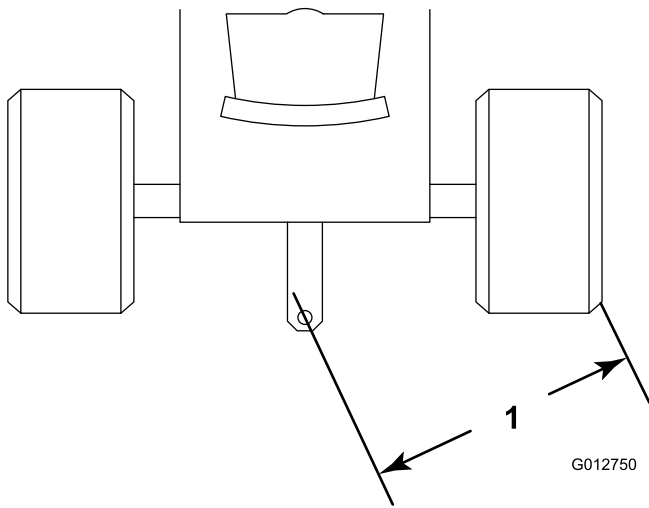

Figure 2
7. Adjust tractor draw bar (hitch) so mounting hole is less than 50 inches from outside of rear tractor tire (Figure 2). This will prevent interference with front cutting unit lift arms.